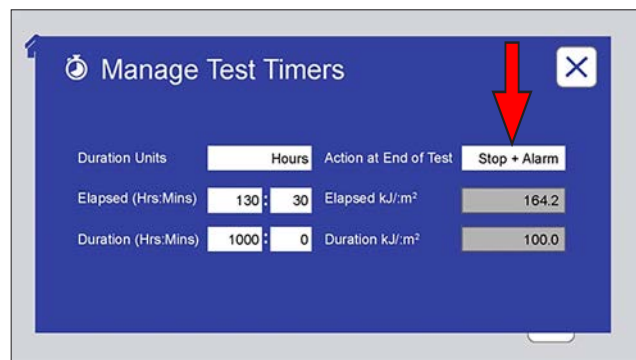
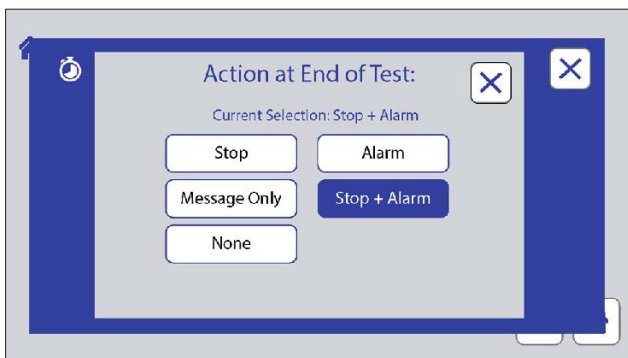

Figure 10.5b: Manage Test Timers screen. Touch the Action at End of Test text box to specify the action.
Figure 10.5c: Action at End of Test screen. Touch an action button to select that action.
- Specify what action the tester should perform at the end of a test (Figure 10.5b and Figure 10.5c).